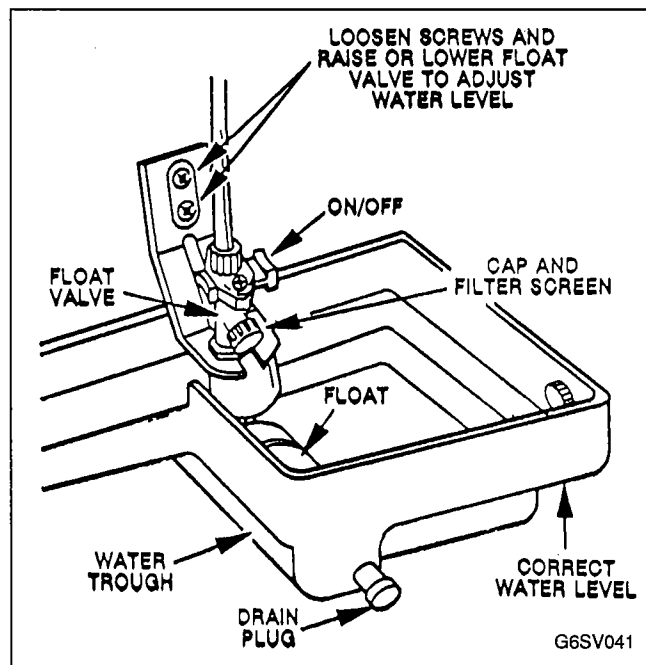

FIGURE 43. FLOAT VALVE CHECK
2. Remove drain plug from trough and allow water to drain. See Figure 43.